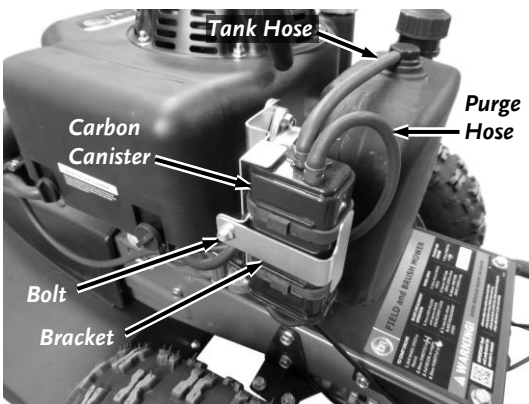

Figure 33
1. Pull the two hoses from the top of the Carbon Canister (**Figure 33**).